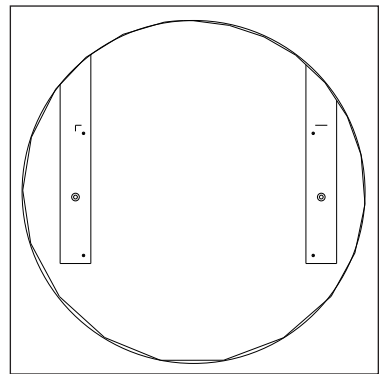

Figure 17: Pre-Drill Holes into Tube
4. Pre-drill $\frac{13}{64}$ " [5 mm] holes into the tube at the marked mounting locations. Refer to **Figure 17**.
- Pre-drill $\frac{13}{64}$ " [5 mm] holes into the tube at the marked mounting locations. Refer to **Figure 17**.